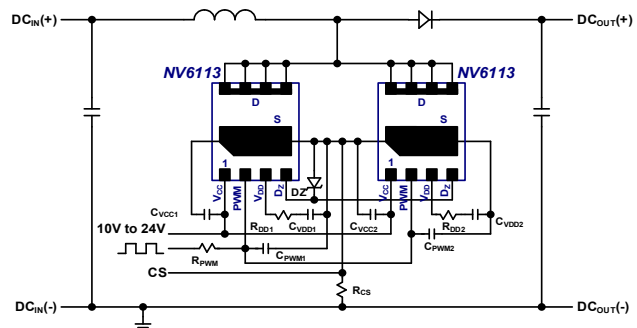

Fig. 25. Boost schematic using two parallel ICs
For some applications it is desirable to parallel ICs in order to reduce conduction losses and temperatures. Two GaNFast power ICs can be connected in parallel in a PFC boost application working in boundary-conduction mode (BCM) only. This configuration is shown in Fig. 25. The paired pins that are connected together include the drain pins (D), the source pins (S), the V_{CC} pins, the PWM pins, and the D_Z . A single D_Z diode can be shared by both ICs. The V_{DD} pins are not connected together and require separate V_{DD} supply capacitors (C_{VDD1} , C_{VDD2}) and separate turn-on current set resistors (R_{DD1} , R_{DD2}). Each IC should have its own local V_{CC} supply filter capacitor (C_{VCC1} , C_{VCC2}). The PWM pins can have a single filter resistor (R_{PWM}) but separate filter capacitors (C_{PWM1} , C_{PWM2}) should be placed at the PWM pin of each IC. When designing the PCB layout for the two paralleled ICs, the drain and source connections should be made as symmetrical as possible to avoid any parasitic inductance or capacitance mismatch. A proper PCB layout example for paralleling is shown in Section 10.